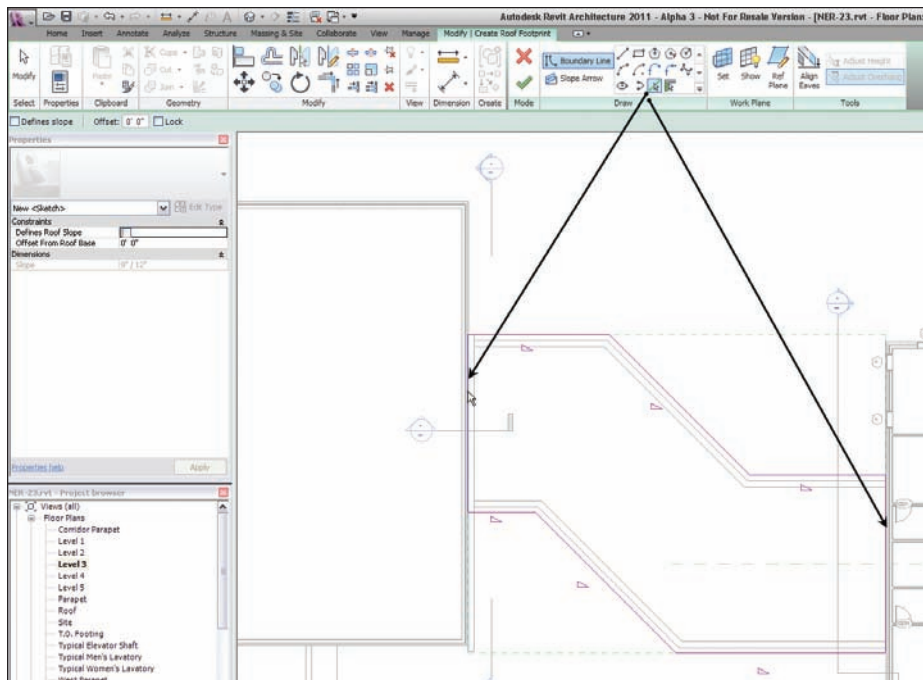

FIGURE 7.24 You must pick lines to trace the terminating walls of the roof.
1. Click the Boundary Line button on the Draw panel, as shown in Figure 7.24.
4. For the offset, enter 0 (see Figure 7.24).
5. Pick the east wall on the west wing, and the west wall of the east wing, as shown in Figure 7.24.